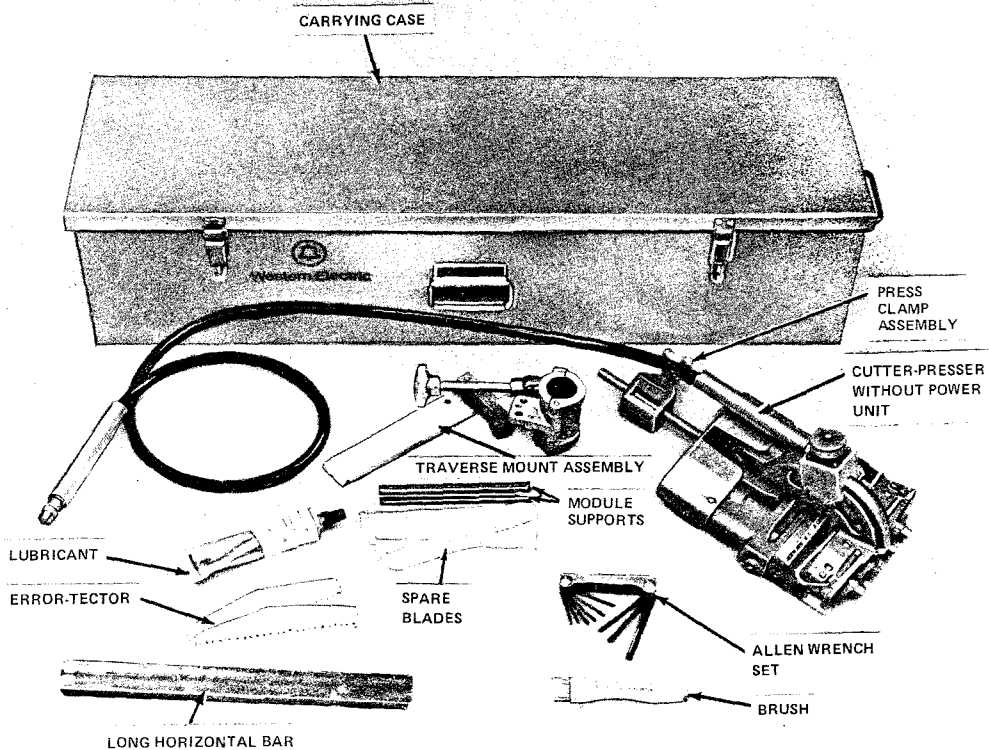

Fig. 29—E Cutter-Presser
4.17 The E cutter-presser (Fig. 29) is a pneumatic/hydraulic operated tool for use by those companies who have the B modular connector tool kits. **When used with the modular connector tool kits, the relief pressure setting of the hydraulic pump**